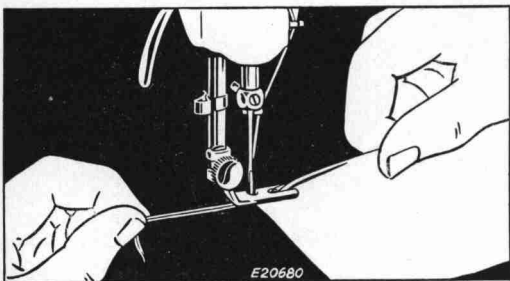

FIG. 36. STARTING HEM AT VERY END OF MATERIAL
- (1) Fold edge of material twice, about $\frac{1}{8}$ inch each time, for a distance of about two inches. Crease folds.
- (2) Lay about three inches of needle and bobbin threads back under hemmer. Place creased edge of material under hemmer with end of hem directly under needle. Lower hemmer and tack end of hem with two machine stitches.
(3) Raise hemmer. Pull threads and hem slightly from you with left hand, then while holding threads, draw material toward you with right hand into scroll of hemmer until tacked end is caught in hemmer, as shown in **Fig. 36.**